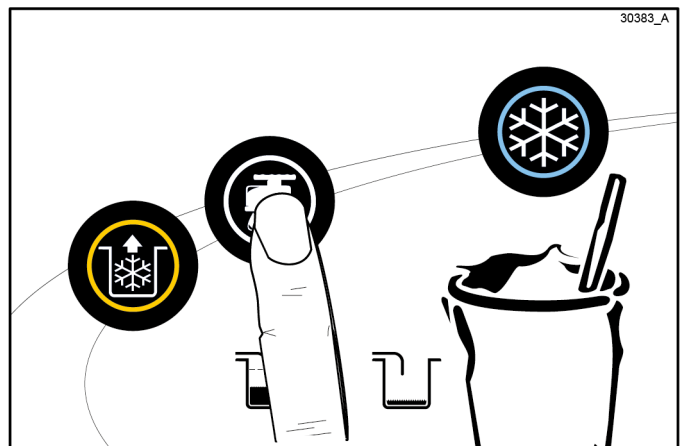

Figure 6-44
8. Press the Wash key . This will cause the sanitizing solution in the freezing cylinder to come in contact with all areas of the freezing cylinder. Wait at least 5 minutes before proceeding with these instructions. (See Figure 6-44.)